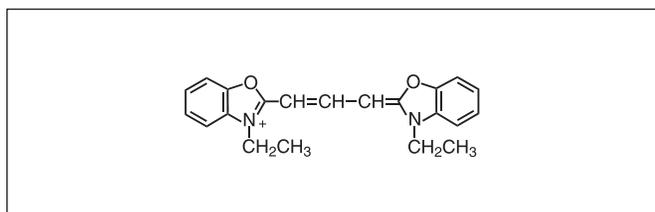

Figure 1. Structure of DiOC₂(3), molecular weight: 460.31.
Cationic cyanine dyes have been shown to accumulate in cells in response to membrane potential¹ and membrane potential changes have been studied in association with apoptosis.^{2,3} The MitoProbe™ DiOC₂(3) Assay Kit provides solutions of the cyanine dye DiOC₂(3) (3,3'-diethyloxacarboxyanine iodide, Figure 1) and CCCP (carbonyl cyanide 3-chlorophenylhydrazone), for the study of mitochondrial membrane potential. DiOC₂(3) penetrates the cytosol of eukaryotic cells. At concentrations below 100 nM, the dye accumulates primarily in mitochondria with active membrane potentials, and red emission increases due to dye stacking. DiOC₂(3) stain intensity decreases when cells are treated with reagents that disrupt mitochondrial membrane potential, such as CCCP (Figure 2).